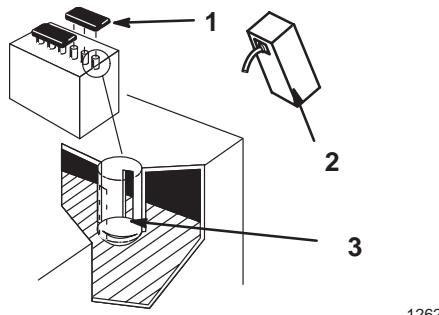

Figure 3
- Remove filler caps from the battery. Slowly pour electrolyte into each cell until the electrolyte level is up to the lower part of the tube (Fig. 3).
7. Slowly pour electrolyte into each cell until the level is once again up to the upper line on the battery case (Fig. 3) and install covers.